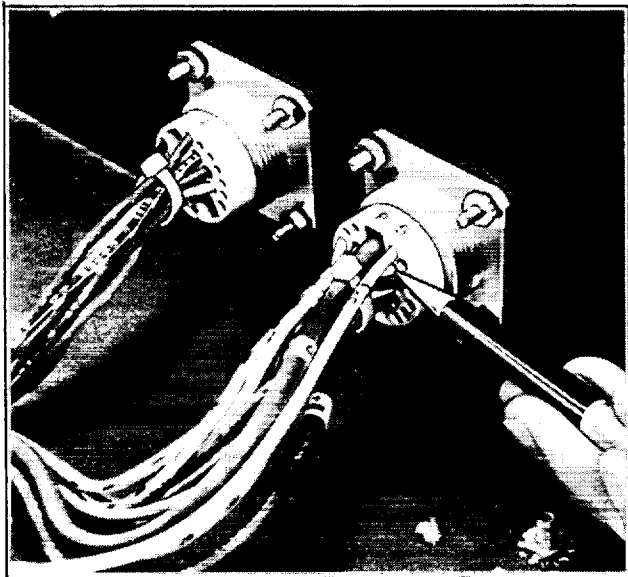

Figure 6. Socket, Pin Position
7. Disconnect battery, negative lead first. Push pin socket end of lead 30 into rear of P5 socket, position B. See Figure 6. Tie lead 30 to existing harness.